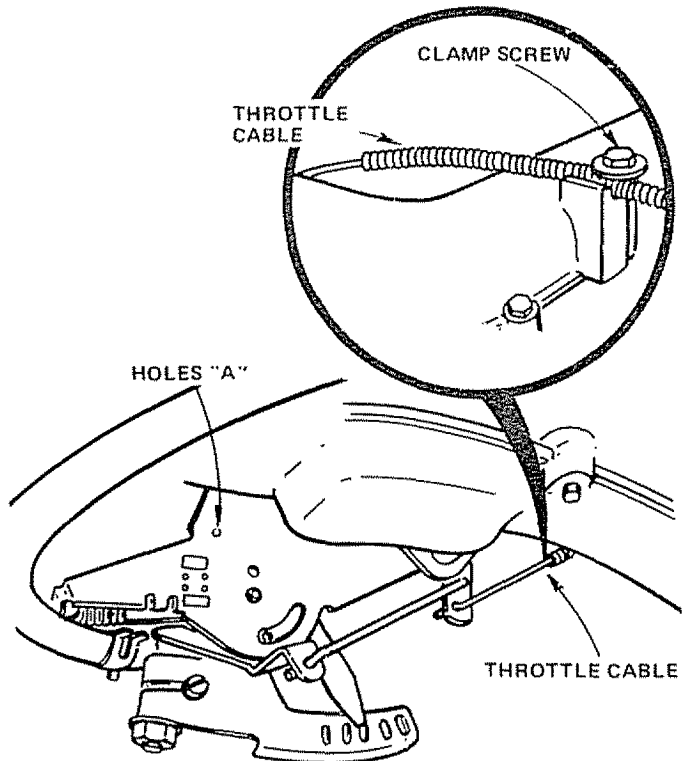

FIGURE 37
- Check that two holes "A" line up. If not, loosen Clamp Screw and adjust Throttle Cable until the two holes do line up (Fig. 37 - Inset).